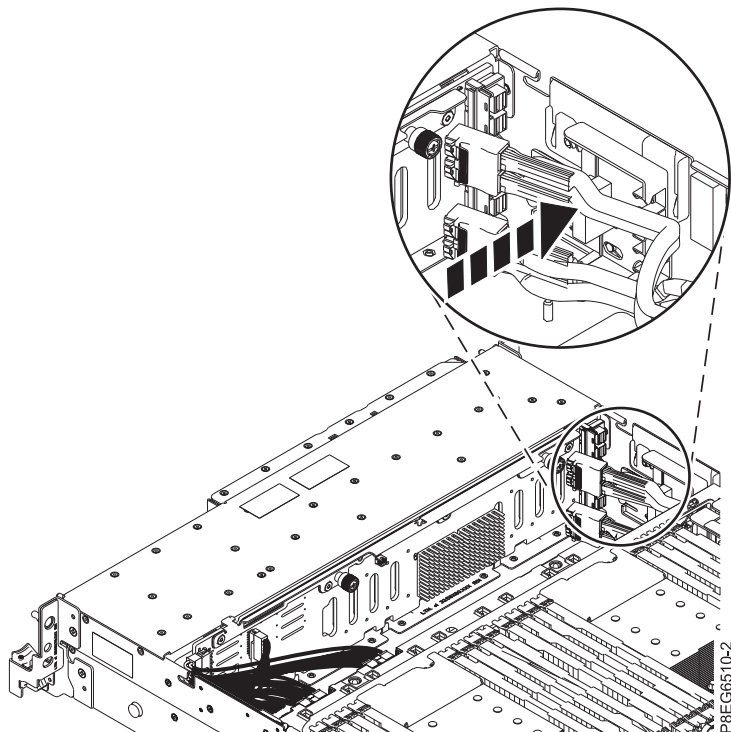

Figure 20. Reseating the front SAS cables
6. Reseat the front SAS cable into the guide block on the side of the chassis as shown in Figure 20.